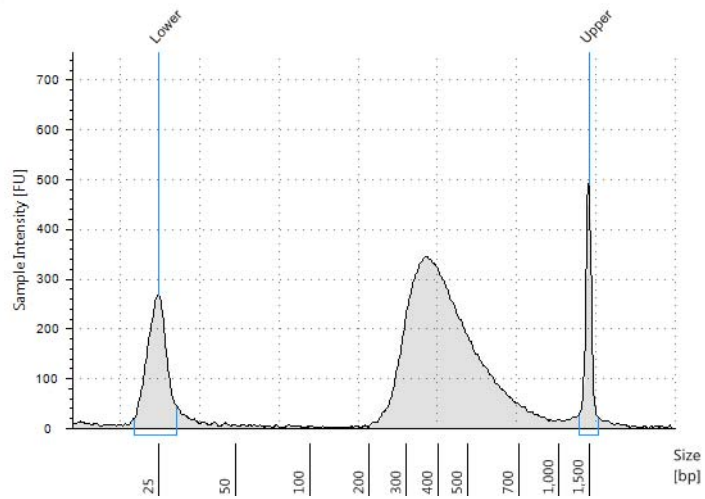

Figure 5 Post-capture analysis of amplified indexed library DNA using the 2200 TapeStation with a High Sensitivity D1000 ScreenTape.
- 3 Verify that the electropherogram shows the peak of DNA fragment size positioned between 325 and 450 bp. A sample electropherogram is shown in Figure 5.